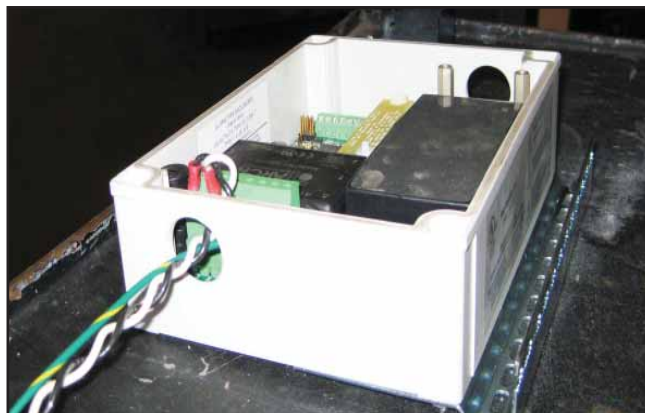

Figure 4: Attaching DTU
10. Find power harness kit part number 600-0165. Find the Tokheim power harness and ground wire with ring terminal as shown in figure 4 of the Parts List. Remove tie-wraps and uncoil.